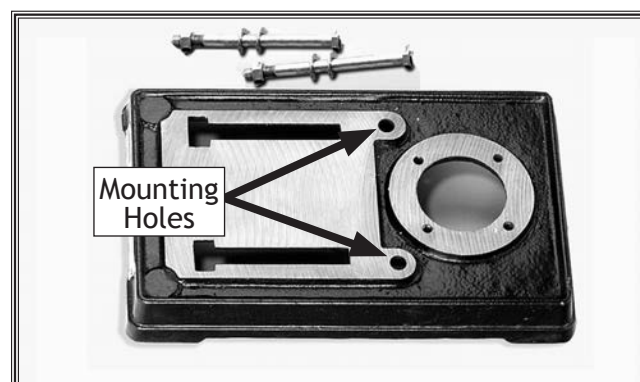

Figure 8. Workbench mounting holes.
- b. Drill two mounting holes (Figure 8), and secure the base to the table with the two supplied carriage bolts and wing nuts.